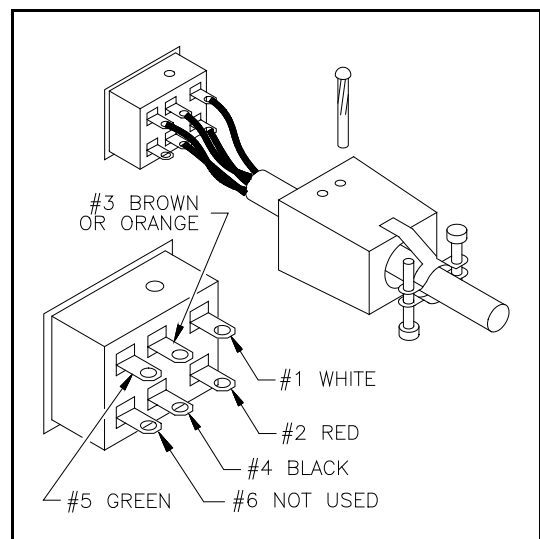

Figure 1. 6 Prong Female Connector
- 4.2.3 Loosen the strain relief clamp screws on the connector. See Figure 1. Push out the small pin in the connector with an awl or small diameter tool. Pull back the cover and examine the connections carefully. Make sure that the terminals are not bent and are separated by at least 1/8". Any loose or frayed connections must be re-soldered. Replace the cover and pin.